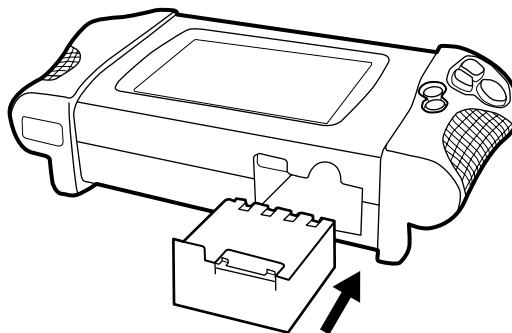

Figure 3-5 Battery pack slot
- Insert the battery pack into the designated slot at the bottom of your unit near the right handgrip (Figure 3-5).